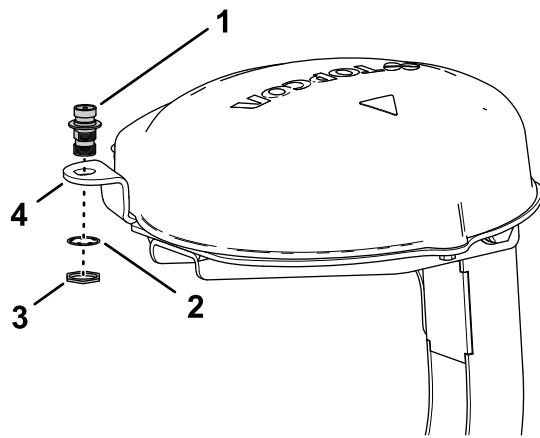

Figure 157
1. Align the coaxial coupler through the opening in RTK-antenna flange with the bulkhead threads of the coupler down (Figure 157).
2. Assemble the coaxial coupler to the flange of the receiver plate with the lock washer and jam nut, and tighten the jam nut by hand (Figure 157).